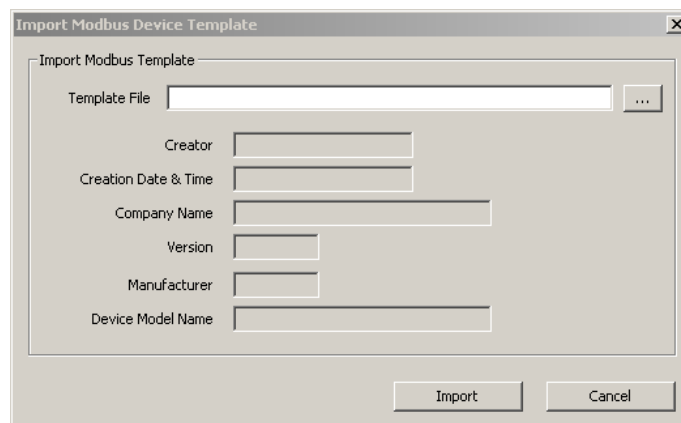

Figure 145 Import Device Template dialog.
2. This opens the **Import Modbus Device Template** dialog shown in Figure 145.